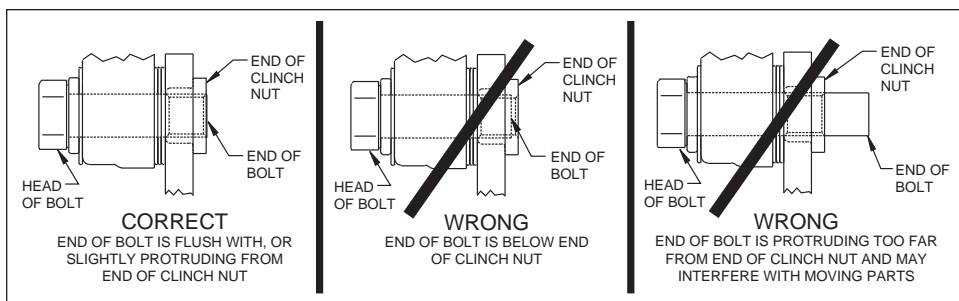

Figure 5. Clinch Nut Engagement Diagram
Assembly Instructions (numbers in parenthesis refer to the parts list, and Figure 1 on the preceding pages): **CAUTION:** All mounting bolts must fully engage clinch nuts. Be sure to check that all bolts are either flush or protruding through flanged side of clinch nut after shimming, Figure 5.
- NOTE:** Please reference the caution statement at the beginning of the assembly instructions. Mount the caliper (5) onto the caliper mounting bracket (1) using bolts (7) and washers (6), as shown in Figure 1. Initially place three .035" thick shims (8) on each bolt between the caliper and the bracket, Photo 5. Temporarily tighten the mounting bolts and view the rotor (4) through the top opening of the caliper. The rotor should be centered in the caliper, Photo 6. If not, adjust by adding or subtracting shims between the bracket and the caliper. Always use the same amount of shims on each of the two mounting bolts. **NOTE:** The end of each bolt must be flush with or slightly protruding from the head of the clinch nut, as shown in Figure 5. If necessary place spare shims between washer (6) and caliper mounting ear to achieve the proper clinch nut engagement. Once the caliper alignment and clinch nut engagement are correct, remove the bolts one at a time, apply red *Loctite*® 271 to bolt threads, and torque to 40 ft-lb.